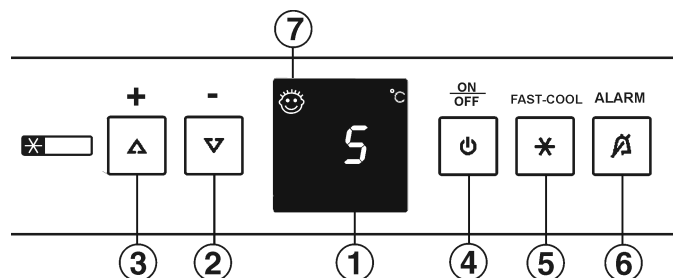

Fig. 2
- ▶ Press On/Off button *Fig. 2 (4)*.
- ▶ To activate the setting mode: Press the Fast Cool button *Fig. 2 (5)* for about 5 seconds.
- ▶ Using the "+" setting button *Fig. 2 (3)* and "-" setting button, select *Fig. 2 (2) h*.
- ▶ To confirm: Briefly press the Fast Cool button *Fig. 2 (5)*.
- ▶ To make the display brighter: Press "+" button *Fig. 2 (3)*.
- ▶ To make the display darker: Press "-" button *Fig. 2 (2)*.
- ▶ To confirm: Press Fast Cool button *Fig. 2 (5)*.
- ▶ To deactivate the setting mode: Press the On/Off button *Fig. 2 (4)*.